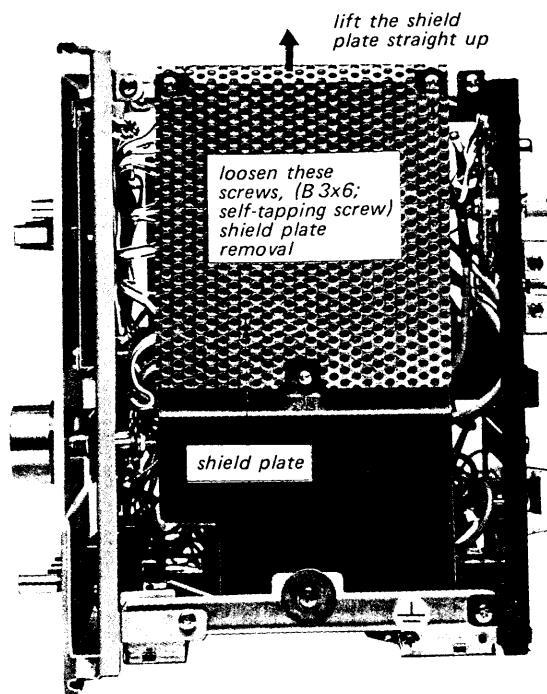

Fig. 2-6. Shield plate removal
2. Loosen the two screws securing the pre-amplifier board to its bracket shown in Fig. 2-6.
3. Remove the shield plate. This permit the power transistor removal shown in Fig. 2-6.